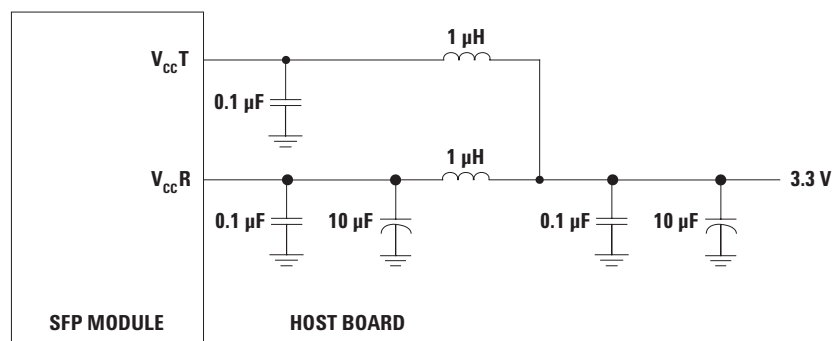

Figure 3. Recommended Power Supply Filter
3. See Figure 3 for the recommended power connection.